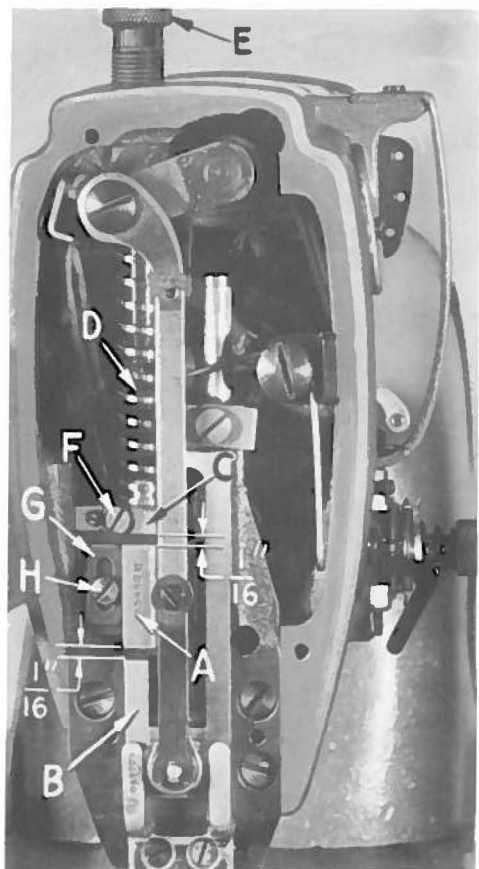

Fig. 16A
The presser bar connection (A, Fig. 16A) should be set so that it is $\frac{1}{16}$ inch above the knife guard frame (B) on Style 63400 D.
When locating the presser bar guide (C, Fig. 16A), the presser foot must rest directly against the throat plate with the feed dog in its lowest position. The presser bar guide is set properly when there is a $\frac{1}{16}$ inch space between the guide and the presser bar connection. To obtain this setting, remove pressure from presser spring (D), by turning spring regulator (E) counterclockwise. Now, loosen set screw (F) and tap on presser foot to insure its
1. The tension release arm (G, Fig. 16A) should be set so that it will not release the thread tension when sewing over seams or when the presser foot is raised for back tacking. The adjustment of the tension release arm and the in-out position of the tension assembly are required for proper operation.
3. The tension release arm (G, Fig. 16A) should now be positioned by loosening the holding screw (H) and then raising or lowering the arm to suit the sewing conditions. The average release point being 5/16 inch of presser foot lift above the throat plate. Tighten screw (H) securely.